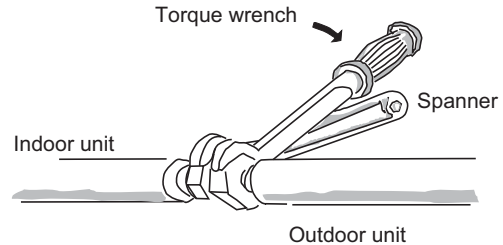

Fig. 1-134
(2) To fasten the flare nuts, apply specified torque.
- When removing the flare nuts from the tubing connections, or when tightening them after connecting the tubing, be sure to use 2 adjustable wrenches or spanners. (Fig. 1-134)